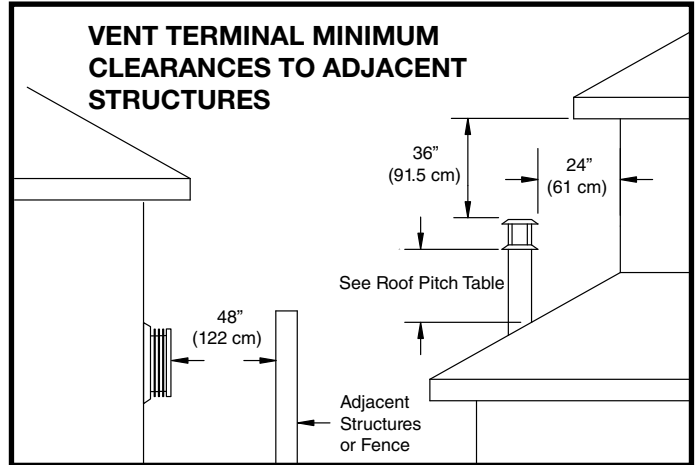
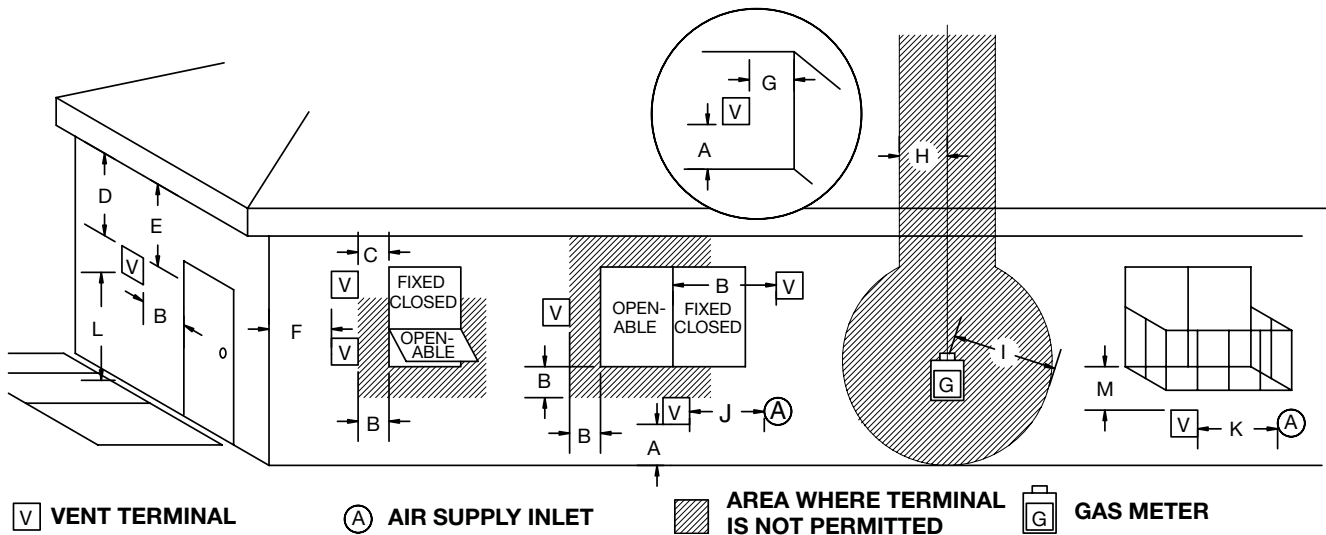

Figure 36: Vent roof clearance.
Figure 37: Vent terminal minimum clearances.
**NOTE: MINIMUM CLEARANCES TO THE VENT TERMINAL MUST BE MAINTAINED See Figure 36 and Figure 37 on page 26.**
Minimum clearances to the vent terminal must be maintained as shown in Figure 36. Measure clearances to the nearest edge of termination hood.